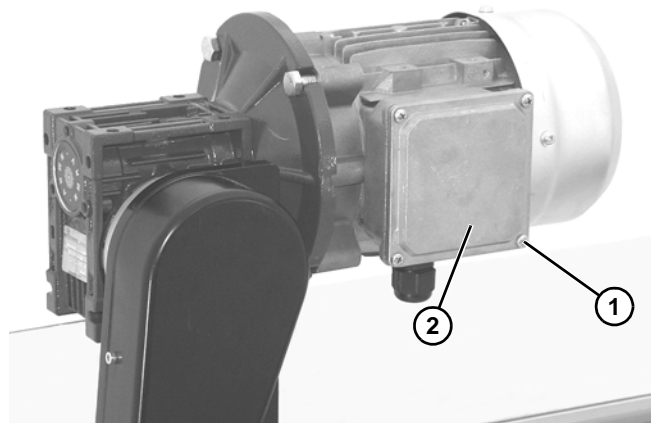

Figure 33
- a. Loosen terminal box screws (Figure 33, item 1) and remove cover (Figure 33, item 2).